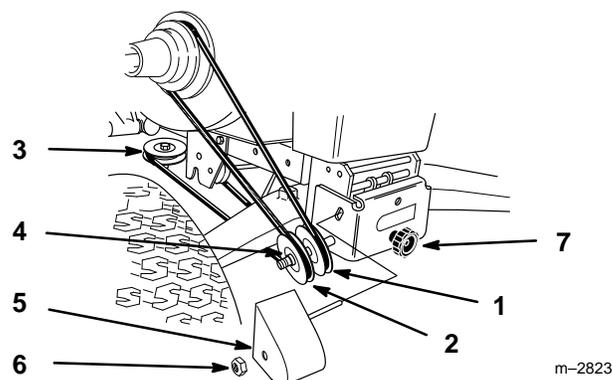

Figure 9
15. Route belt around V and flat pulleys and loop over center mower spindle, top pulley.(Fig. 9).
16. Check that spacer is on shaft and install belt cover with rod in hole. Secure with locknut (Fig. 9).
17. Turn knob counterclockwise to tighten belt (Fig. 9). Tighten until there is 1” (26 mm) belt movement between engine clutch and idler pulley when slight pressure is applied to the belt.